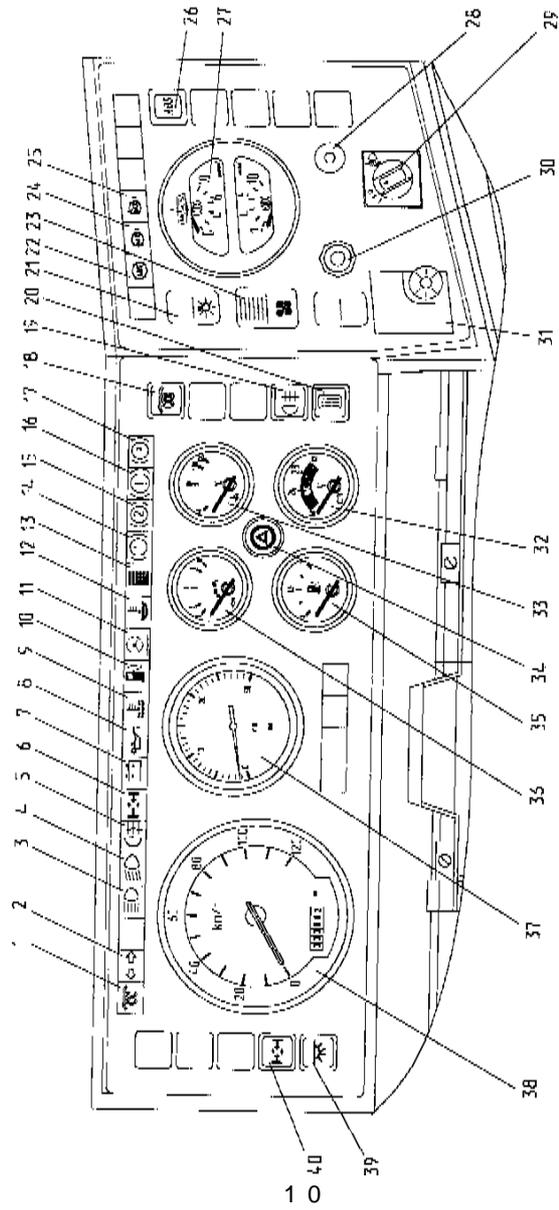

Fig.2. Dashboard:
- press the button of the glow plugs switch 8 (Fig. 2) and hold it down for 20-25 s, then switch on the starter by turning the key to the second (non-fixed) position without releasing the button of the glow plugs switch;
Turn the switch 23 (Fig.2) of the cab preheater fans operation mode to the lower position (small speed of the fan rotation).